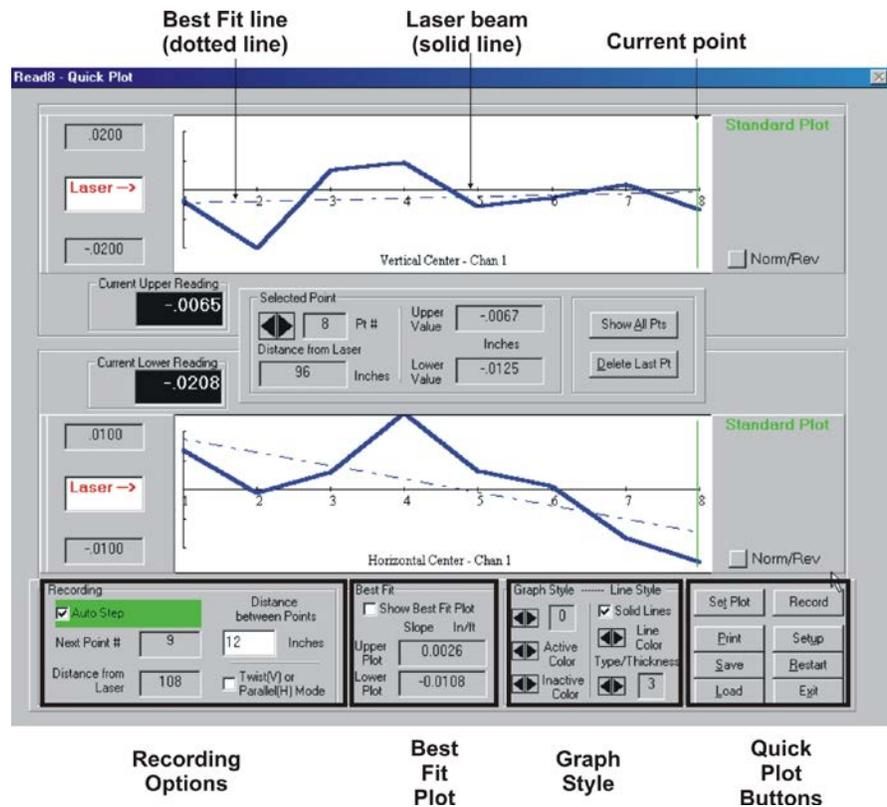
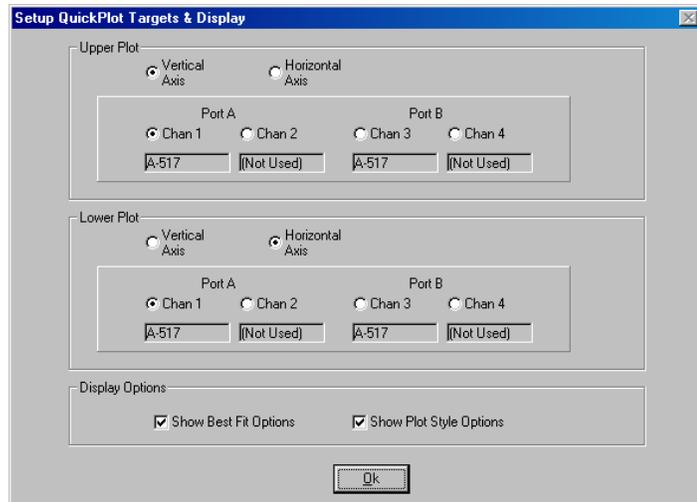

Figure 70 – Standard Quick Plot Screen
Figure 71 – Setup Targets and Display Screen
Figure 70 displays a Standard Quick Plot screen with eight recorded points. In this Quick Plot screen
- the vertical line at Point 8 (marked “Current point” in Figure 70) indicates that this is the current recorded point,
- the values marked *Upper Value* and *Lower Value* between the two graphs denote the actual target reading at any given point. For example, if you click the arrows beneath **Selected Point** and select Point 8, the *Upper Value* reading is the target reading at Point 8 for the upper graph and the *Lower Value* reading is the target reading at Point 8 for the lower graph (see Figure 70).
Quick Plot contains a number of options for recording and viewing readings and for setting up the appearance of the graph (refer to Figure 70, beginning in the lower right-hand corner). The Graph Style and Best Fit Plot options can be displayed or hidden, depending upon the selections made in the Setup Quick Plot Targets and Display screen (see Figure 71).
Click **Set Plot** or press **Alt-T** to display the Setup Quick Plot Targets and Display screen (see Figure 71). From this screen the user may specify the plot on which the vertical readings display and the plot on which the horizontal readings display, as well as the port and channel to which a target (or targets) is connected. In the Display Options section of this screen, the user can choose to display or hide the Best Fit and Plot Style Options on the Quick Plot screen by checking or removing the check from the appropriate box.